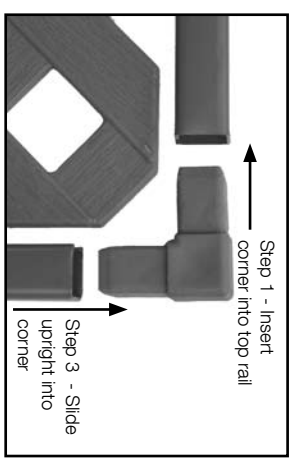

Fig 4
1. Lay the Matrix fence extension on a clean flat surface. Insert a plastic moulded corner into each end of the TOP C-Channel as per Fig. 4 and tap in gently. Take care not to damage the corners.
3. Insert the upright so that it slots into the plastic bracket as shown in Fig. 6a & b. Slide the upright over the edge of the lattice up to the moulded corner in the top C-Channel as shown in Fig. 4, then gently tap it onto the moulded corner. Repeat step 3 for the other end of the fence extension.